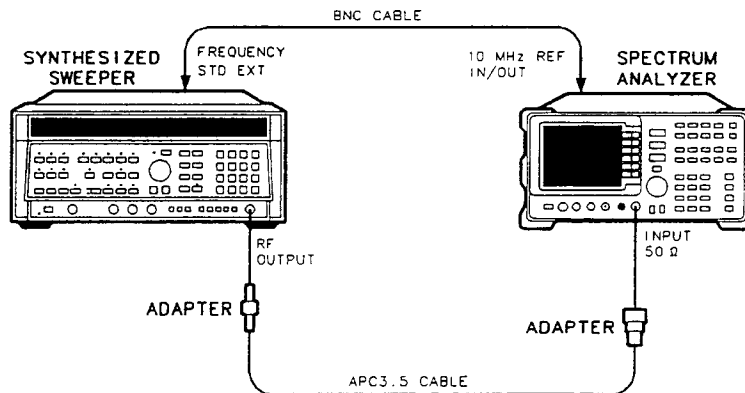

Figure 3-14. Frequency Readout/Frequency Count MKR Accuracy Test Setup
1. Connect the equipment as shown in Figure 3-14. The spectrum analyzer provides the frequency reference for the synthesized sweeper.